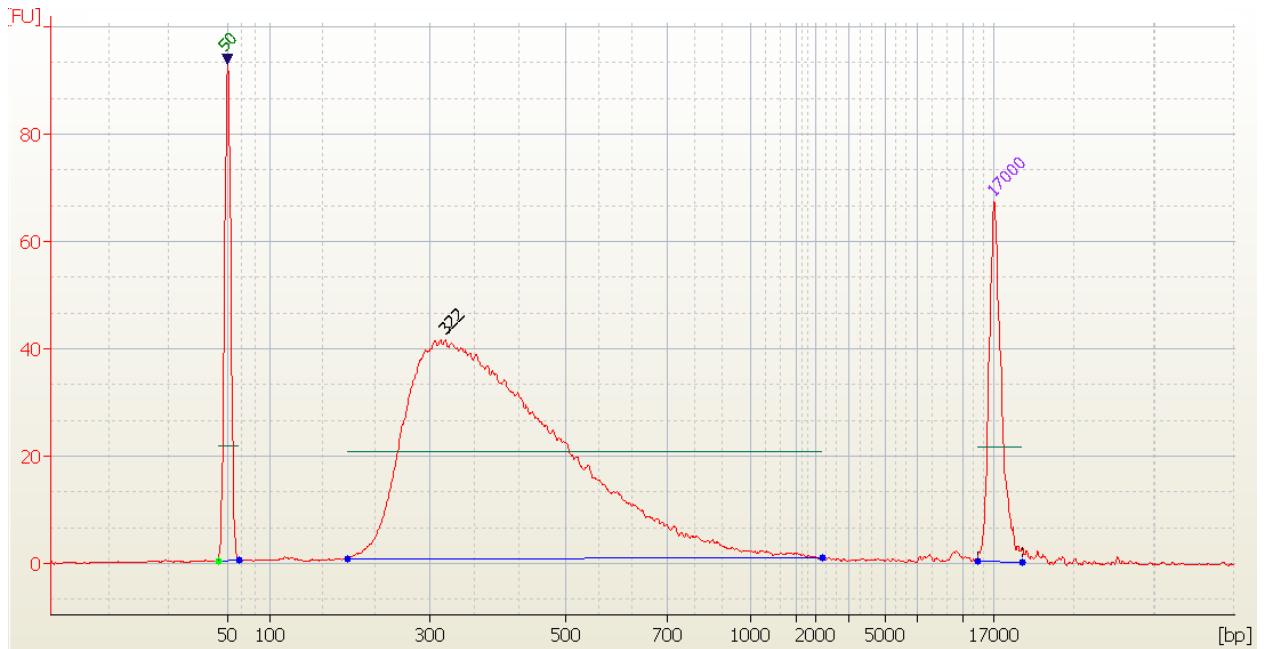

Figure 2 Example of Illumina paired end pre-capture DNA library on Agilent Bioanalyzer 2100 DNA 7500 Chip.
- (1) 30" @ 98°C
- (2) 10" @ 98°C
- (3) 30" @ 60°C
- (4) 30" @ 70°C
- (5) Repeat step (2) to (4) for a total of 6 cycles
- (6) 5' @ 70°C
- (7) HOLD @ 4°C
- f) Run an Agilent Bioanalyzer 2100 DNA Chip 7500 to check size distribution and quantity of PCR product. Make sure there is no excess primer left in the eluted sample (See Figure 2 for example). You should have enough DNA (>1ug) for capture hybridization.